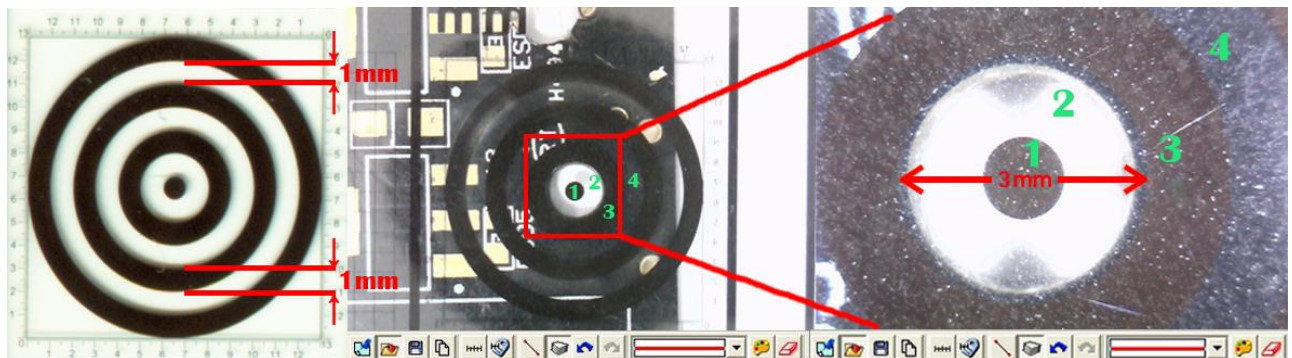

Fig. 5-32 Concentric Circles.
- a. Concentric Circles: To measure a round hole. Place the Concentric Circles (See above chart a) directly onto PCB drilling hole, the diameter can be measured from the concentric circle scale. Diameter: 3.00mm. See fig 5-32.